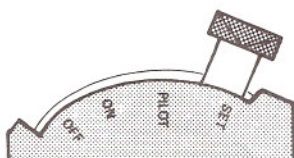

FIGURE 2
- DO NOT** insert any object other than suitable pipe or tubing in the inlet or outlet of this control. Internal damage may occur and result in a hazardous condition. A backup wrench should only be used on the wrench boss provided for this purpose (see figure 2 on previous page), never on body of the control, as this could distort the casting. **NOTE:** Do not overtighten any pipe connections, as this could crack the valve body. A valve with a cracked valve body will not be warrantied.
- If you don't smell gas, hold match at pilot burner. **WARNING:** If pilot lights without moving selector arm to the "set" position, replace control. Push selector arm to the "set" position and hold it while lighting the pilot burner. (See figure 2.) Allow pilot to burn approximately 1 minute. If pilot does not remain lit after returning selector arm to "pilot" position, (See figure 3), repeat operation allowing longer period before releasing the selector arm. (Adjust pilot, if necessary, as noted under "pilot burner adjustment".) the thermocouple may also be defective and should be checked (see Service Instructions.)